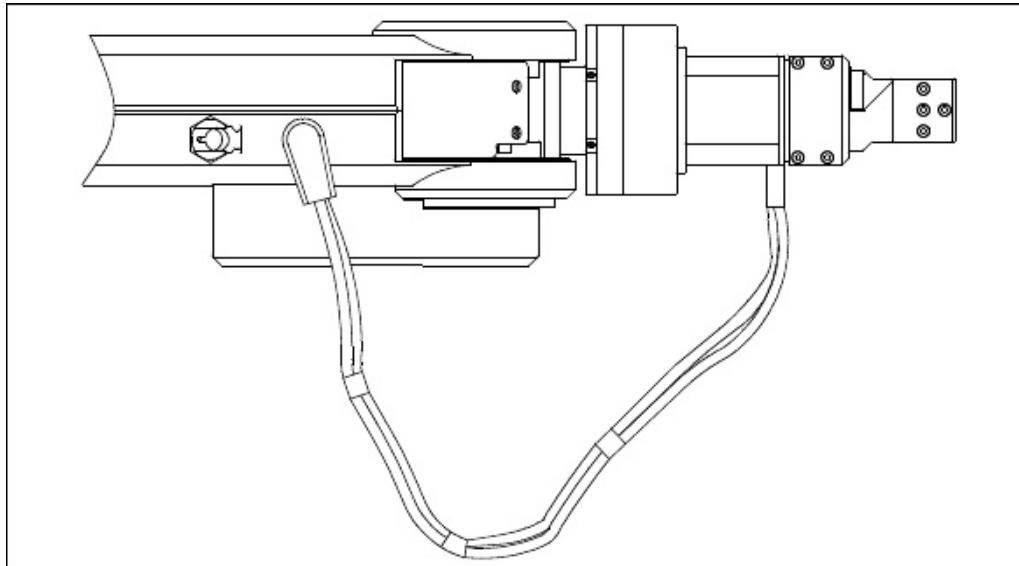

Figure 4-5: Connecting DC Servo Gripper - top view
Make sure the connector is oriented as shown in Figure 4-5.
-  *At the end of each work session (before turning off the controller), or before homing the robot, make sure the gripper's position is as shown in Figures 4-5 and 4-6.*